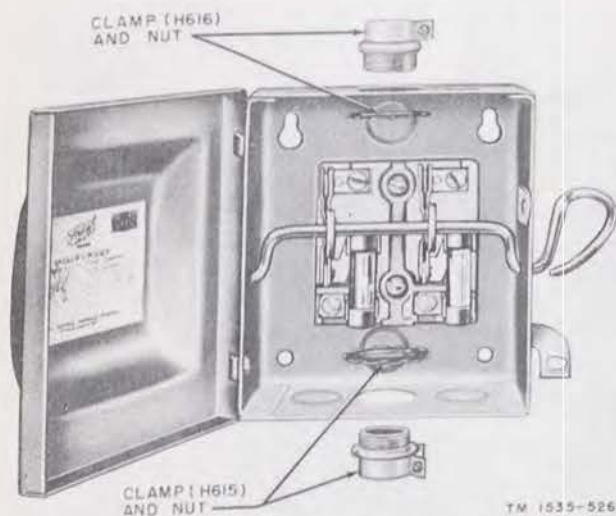

Figure 174. Switch Box SA-284/SPN-11.
a. Clamps H615 and H616 (fig. 174 and 175) may be removed from the switch box in the following manner. Loosen the two screws on the line